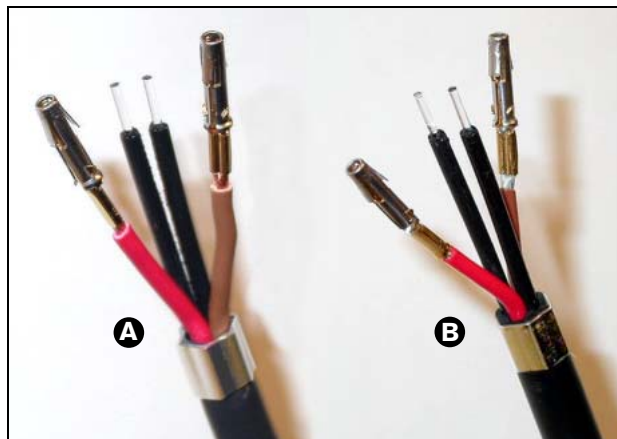

figure 3.16: Stripped optical fibers
- 18 Repeat steps 16 and 17 for the other fiber in the cable. See figure 3.16 for the result of this part of the cable-connector mounting procedure.